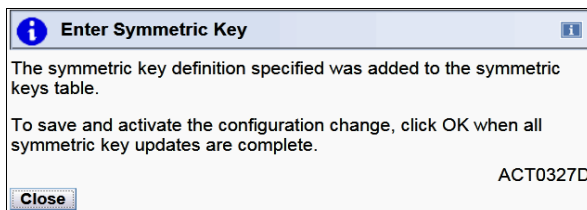

Figure 8-15 Enter Symmetric Key successfully added
5. The Enter Symmetric Key window opens. Click **Close** to add the Symmetric Key (see Figure 8-15).